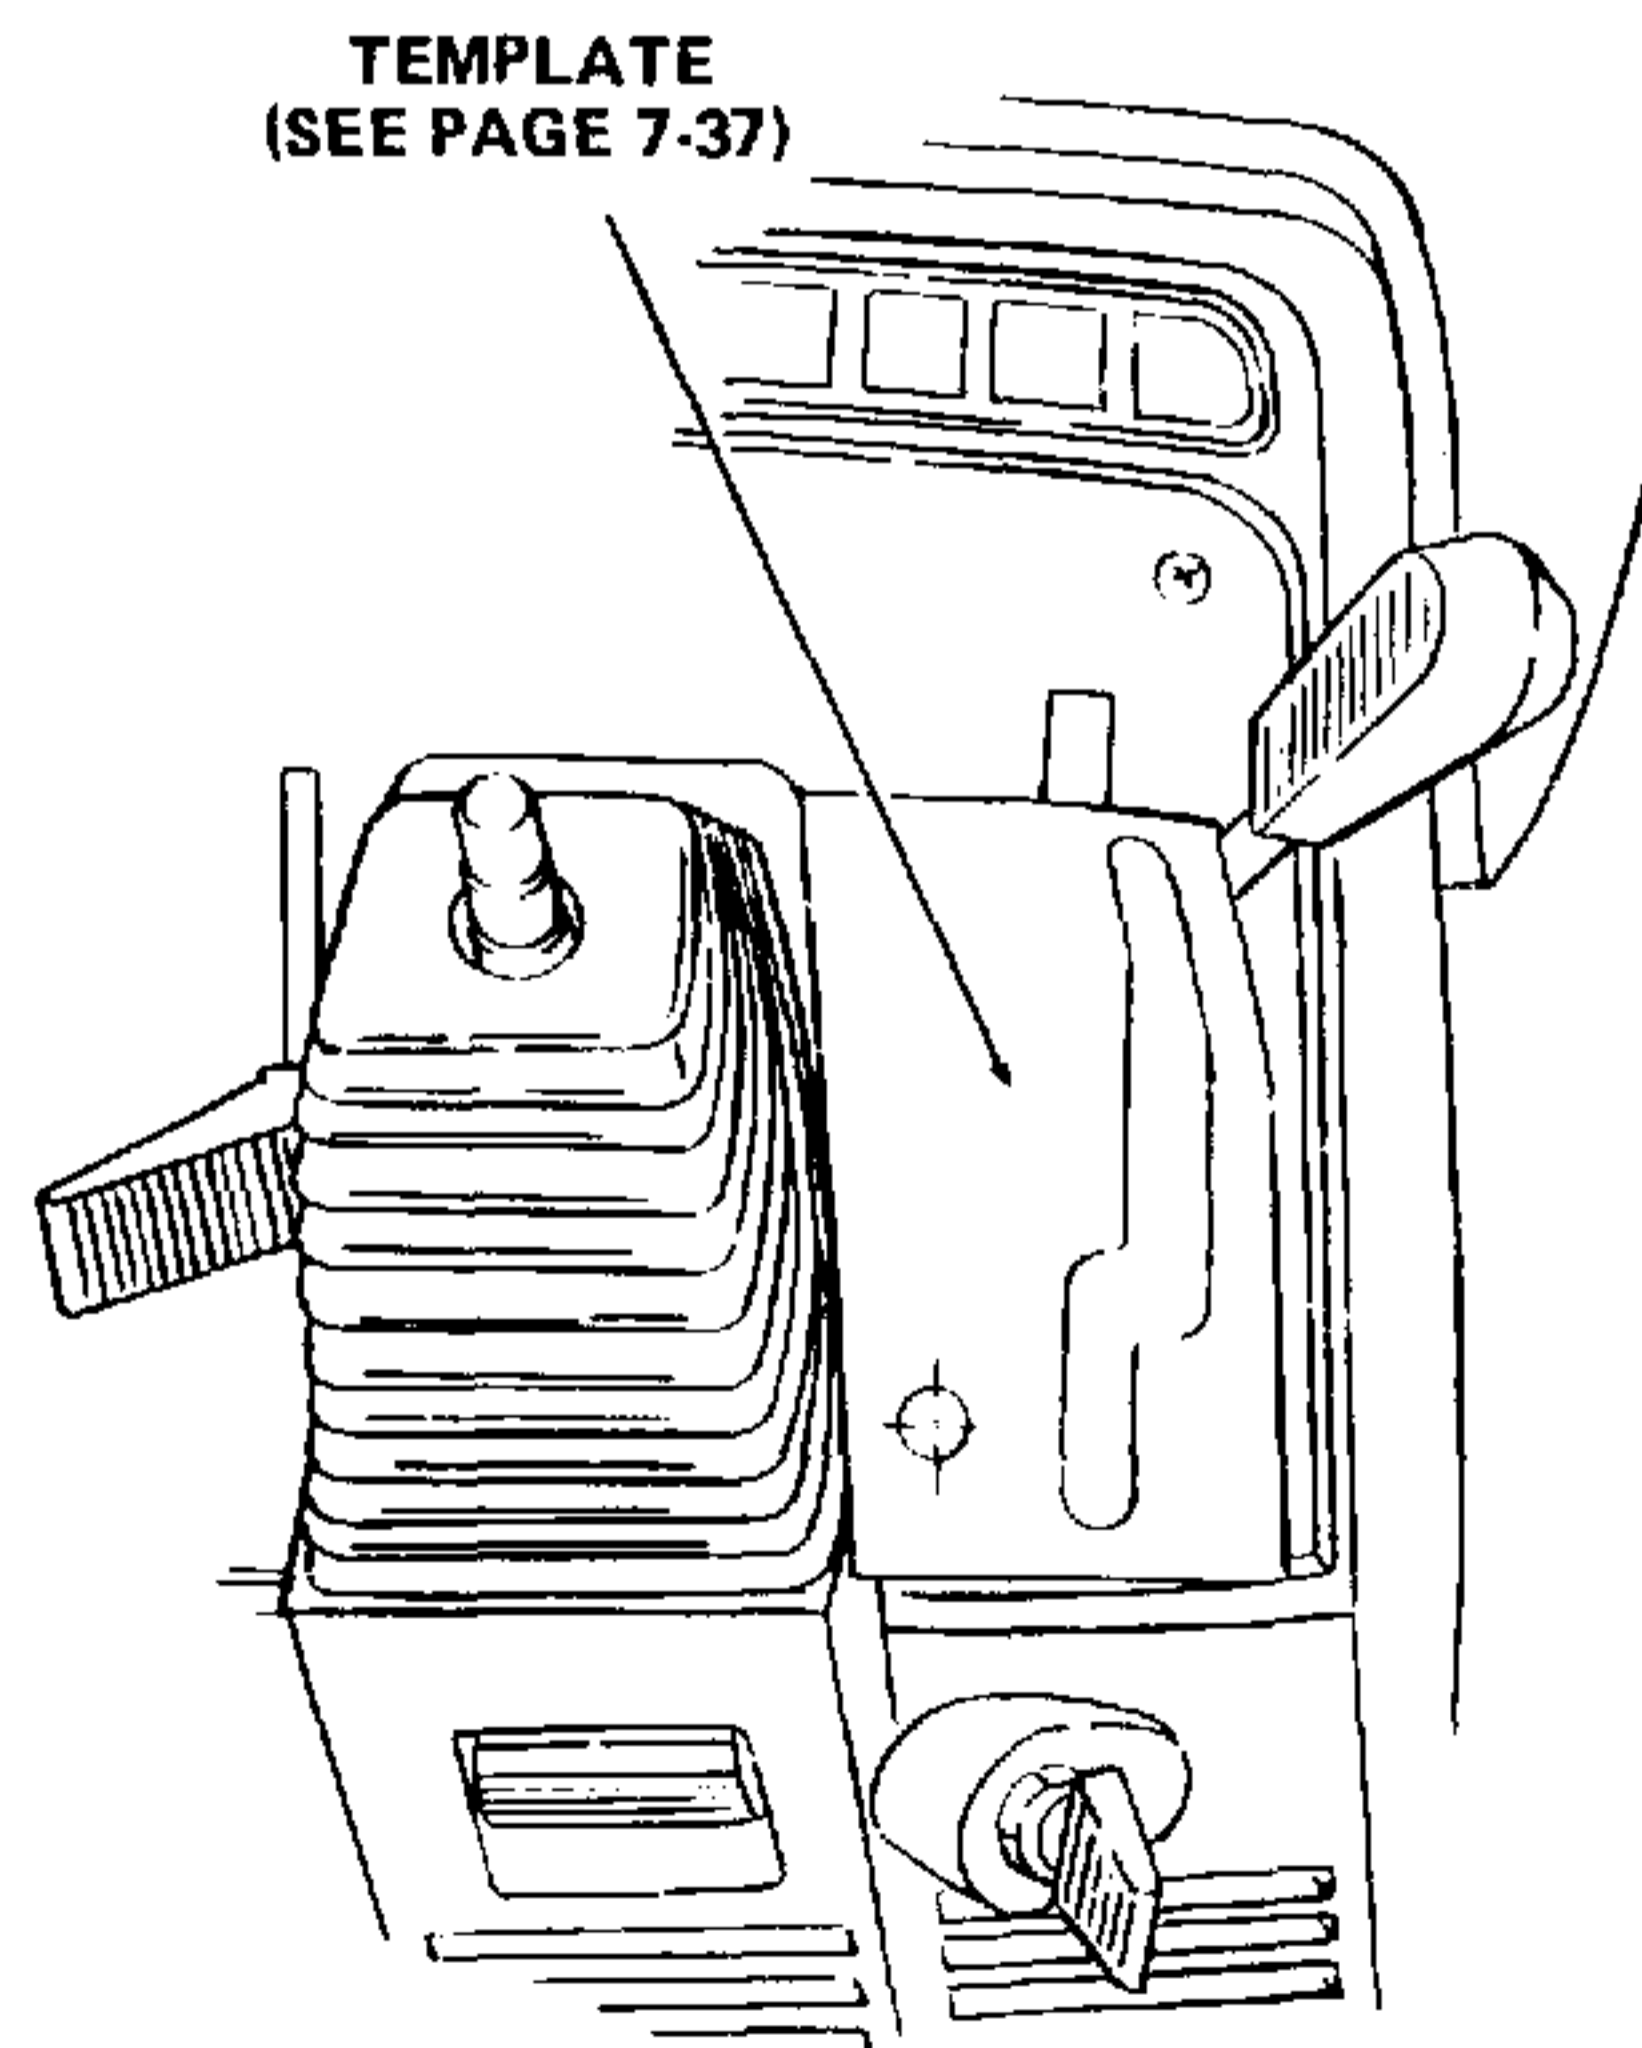

Figure 7-32. Positioning Template on Instrument Panel.
- b. Position template (located on page 7-37) on instrument panel as shown in Figure 7-32 and tape to secure in place.